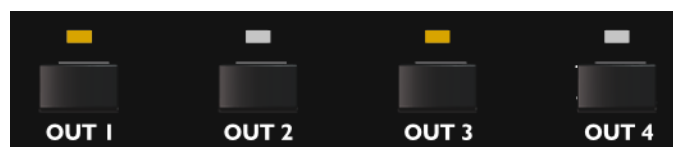

Figure I6: The four OUT LED
The **OUTx** LED (see Figure I6) is:
- not lit (see Figure I6) when output channel OUTx is unmuted.